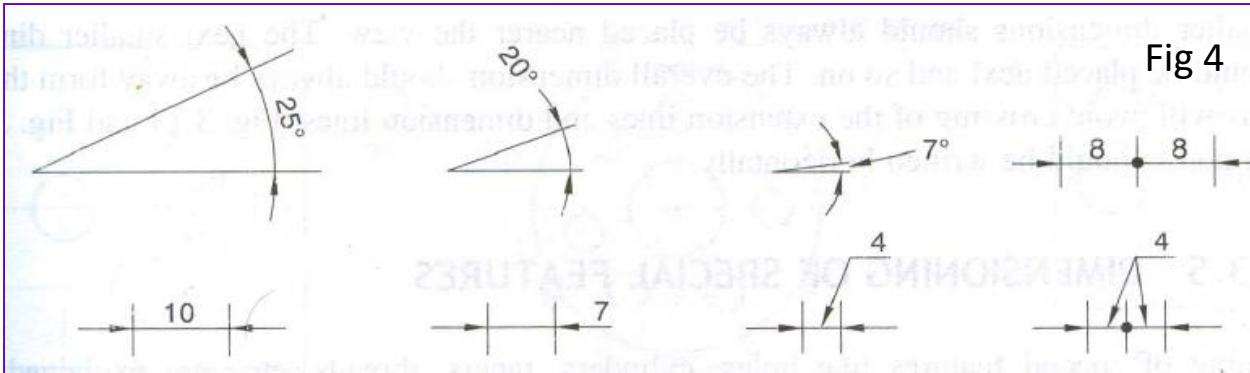

Fig 4
1. Arrowheads should ordinarily be drawn within the limits of the dimensioned feature. But when the space is too narrow, they may be placed outside (fig 4)